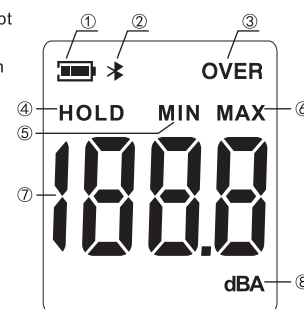

Figure 3
D. LCD Display (referring to Figure 3)
- ①. Battery power prompt sign.
- ②. Bluetooth (Bluetooth version only).
- ③. OVER warning sign/reading exceeding measuring range.
- ④. Data retention.
- ⑤. Maximum value.
- ⑥. Minimum value.
- ⑦. Sound level reading value
- ⑧. Sound level unit of (A weighting)